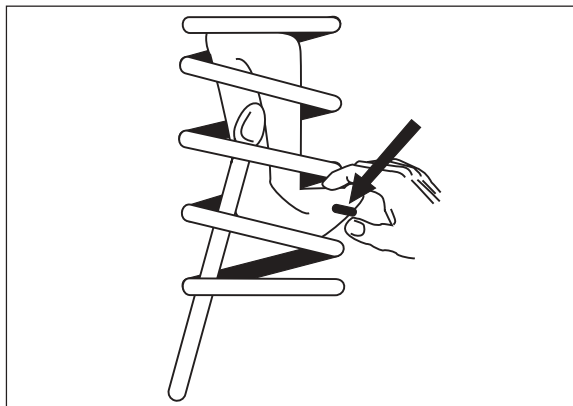

Figure 1
7. Insert the air cylinder into the coil spring with the stem pointing down (Figure 1).